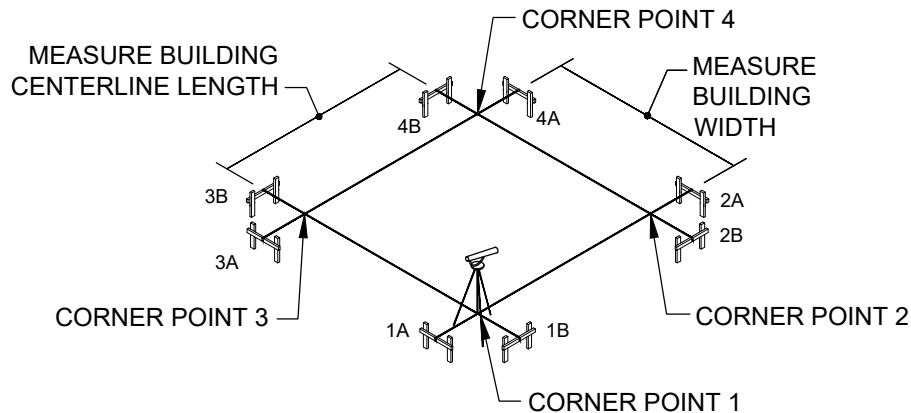

FIGURE 5 - LOCATING CORNER POINT 4
6. TO LOCATE THE FOURTH CORNER POINT (FIG. 5), USING TWO TAPE MEASURES, FROM CORNER POINT 3 AND CORNER POINT 2, THE SPECIFIED LENGTH AND WIDTH. THE POINT AT WHICH THESE LINES INTERSECT WILL BE CORNER POINT 4.
7. NOW YOU MAY PULL YOUR LAST TWO LINES AND FASTEN THEM TO THE APPROPRIATE BATTER BOARDS. BE SURE TO CHECK THE LEVEL OF YOUR LINES (FIG. 5).